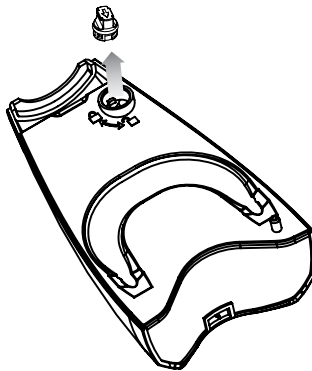

FIGURE 2
1. Align Mop Head with main unit as shown (Figure 2).
2. Remove Water Tank Cap by unscrewing it in a counter-clockwise direction to unlock. Pull Water Tank Cap out (Figure 2). Fill Water Tank with room temperature water, up to 15 oz. (444 ml.), and replace Water Tank Cap so that the grooves on top and bottom of Water Tank Cap align with the tabs inside Fill Hole. Screw Water Tank Cap in a clockwise direction to lock (Figure 3).